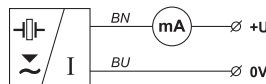

Fig. 25: Connection diagram of the ULM level meter (variant -I)
The ULM level meter or ULS sensor with a B or H type cable gland are connected to processing (display) units by means of a fixed PVC cable 5 m long. PG 11 (B) or plastic bushings with a thread for protective hoses (H) can be used as a cable gland. Connection diagrams are shown in Fig. 25, 26, 27, 28 and 29.